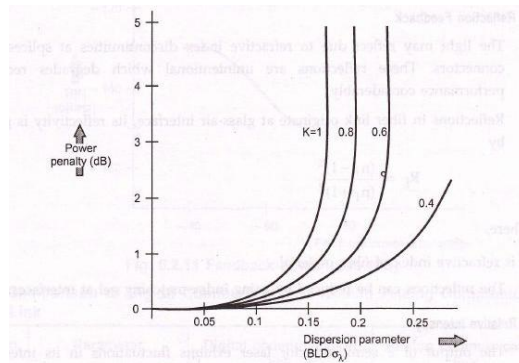

Fig. 6.2.9 MPN induced power penalty
- A power penalty is paid to improve SNR for achieving desired BER. Fig. 6.2.9 shows power penalty at BER of  $10^{-9}$  as a function of normalized dispersion parameter (BLD  $\sigma_\lambda$ ) for different values of mode partition coefficient (K). (See Fig. 6.2.9 on next page.)